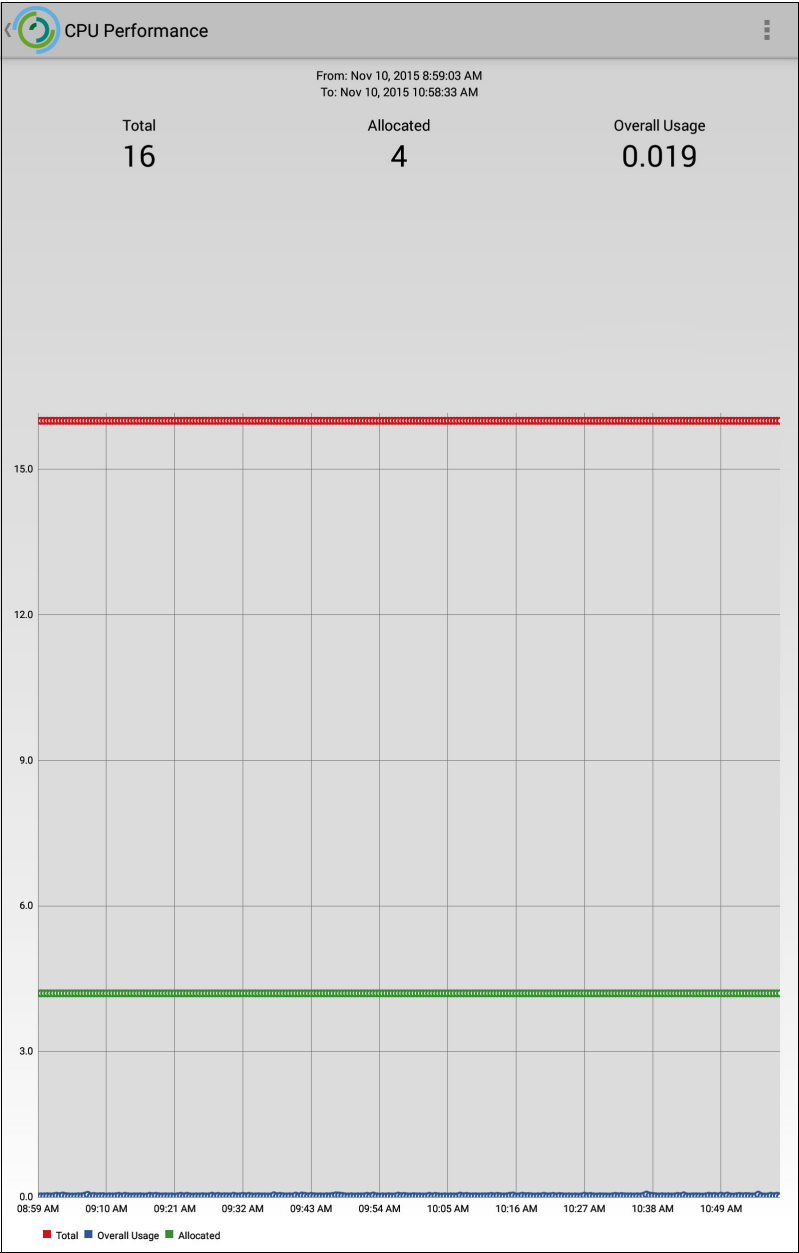

Figure A-11 CPU Performance screen
- ▶ CPU Performance (Figure A-11)